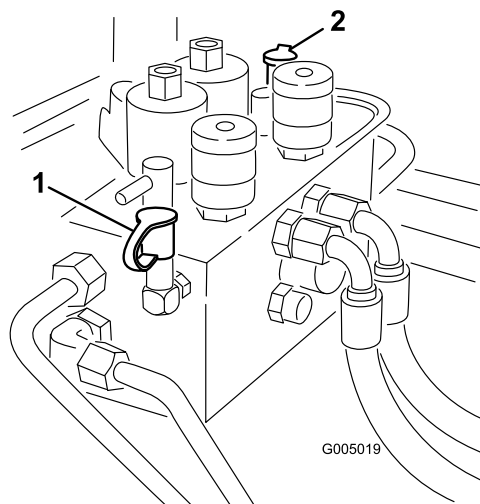

Figure 80
2. Test Port B (Figure 80) is used to assist in trouble shooting the hydraulic circuit for the front cutting units.
3. Test Port C (Figure 80) is used to assist in trouble shooting the hydraulic circuit for the rear cutting units.